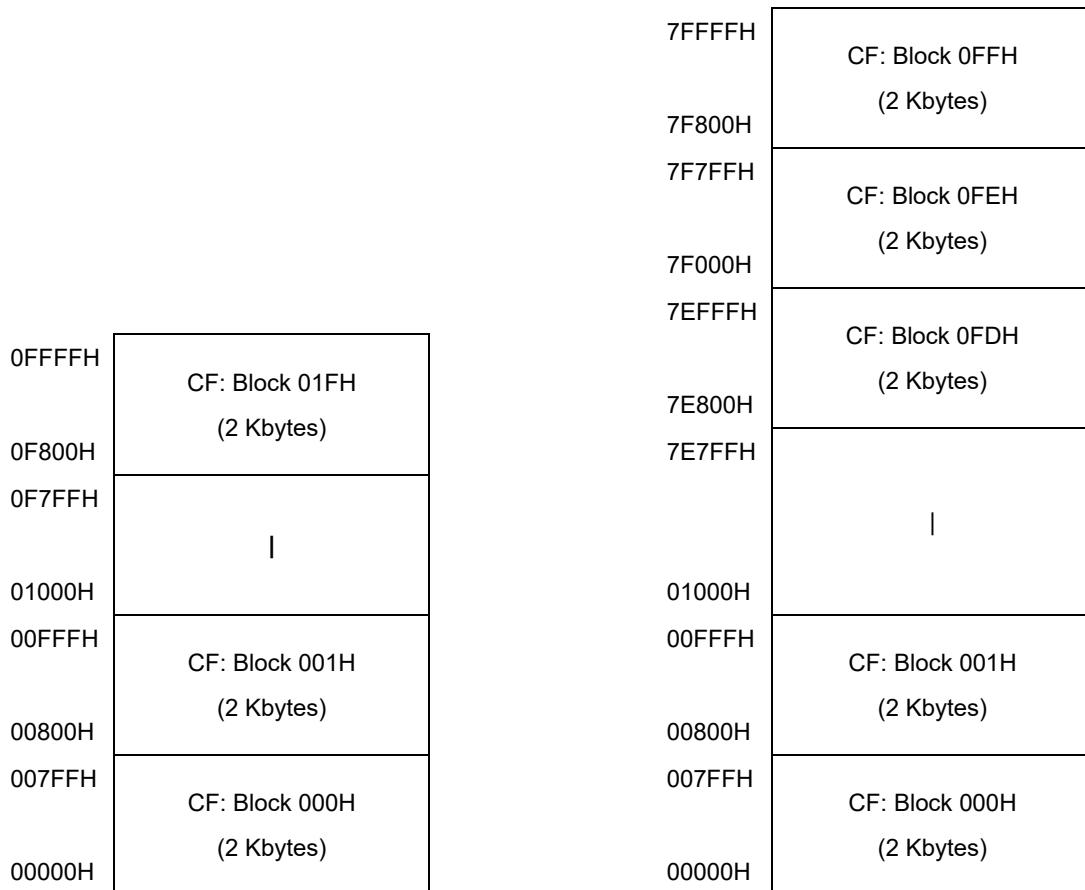
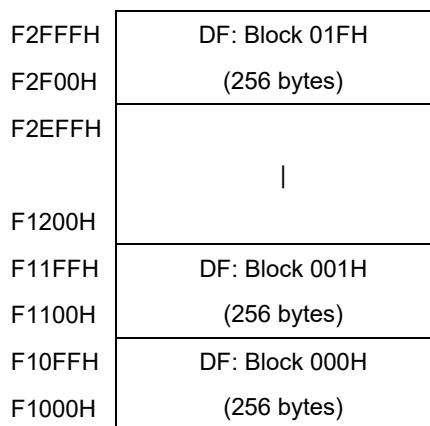

Figure 2-5 Blocks in the Code Flash Memory
Figure 2-6 Blocks in the Data Flash Memory
Figure 2-5, and Figure 2-6 shows the allocation of blocks in code flash memory (CF), and data flash memory (DF) for RL78/L23. Refer to the user's manual of a target device for allocation of blocks for other devices.
(1) R7F100LxE (Code flash memory: 64 Kbytes)
(2) R7F100LxL (Code flash memory: 512 Kbytes)